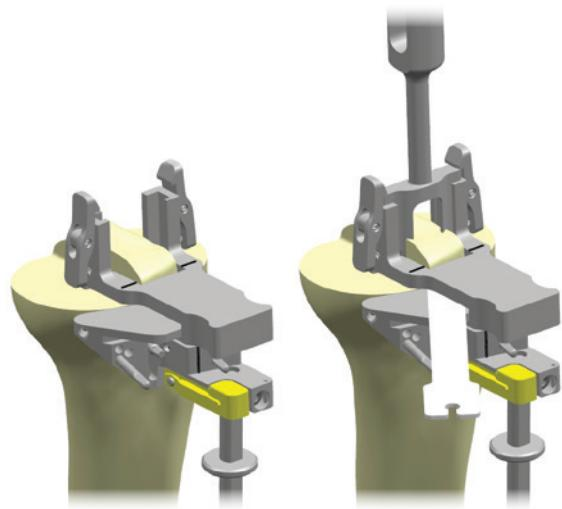

Figure 37
- b. Finish the anterior eminence resection by using an oscillating saw to complete transverse resection (Figure 37).